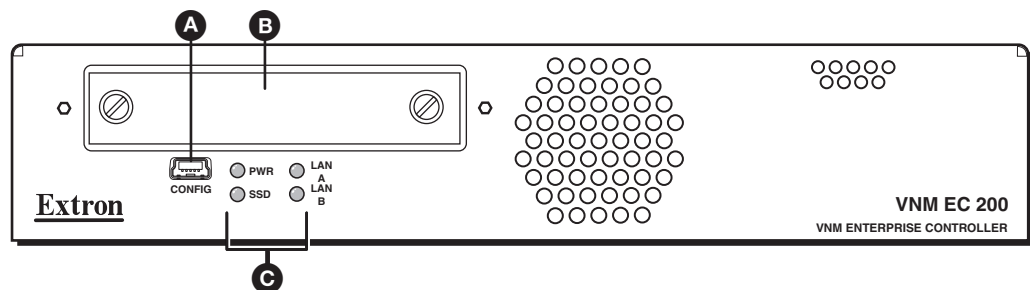

Figure 6. VNM EC 200 Front Panel
The front panel of the VNM EC 200 is shown in figure 6 below.
- B SSD Drive** — This (removable) drive holds the operating system (OS) and software required for operation.
- C Status LEDs** — Four LEDs provide the status of the VNM EC 200 (see figure 6).
- Network Activity LED (A)** — This LED lights solid when a network link is established and flashes to indicate activity on the first network.
- Network Activity LED (B)** — This LED lights solid when a network link is established and flashes to indicate activity on the second network.